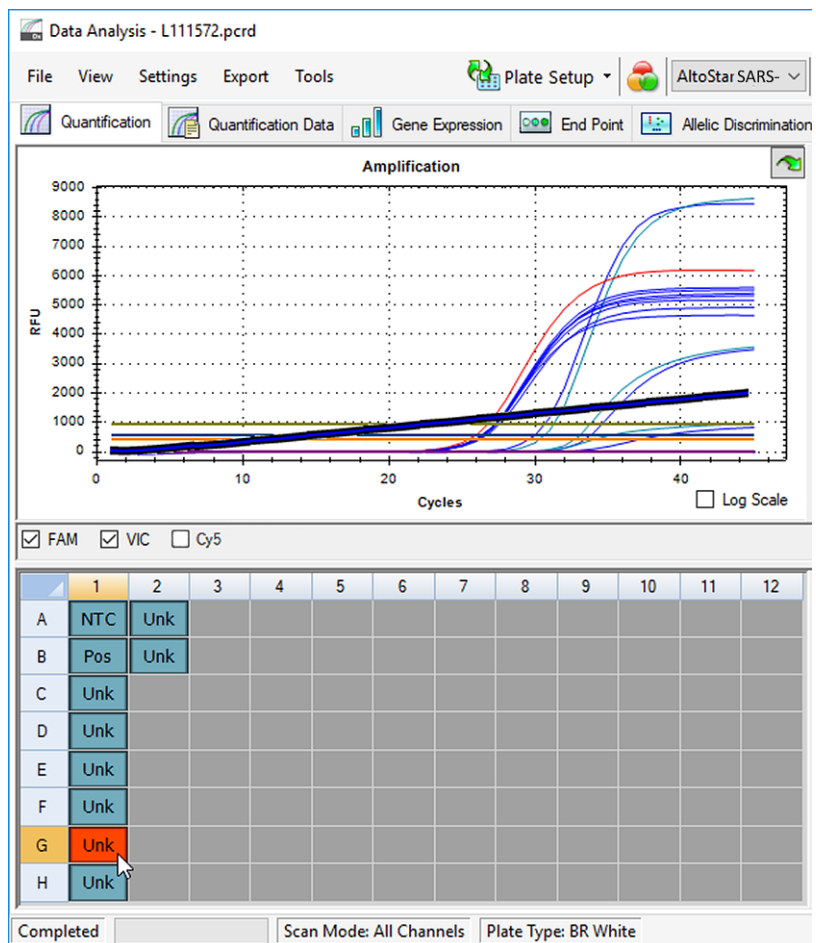

Figure 36: Data Analysis window: Irregular PCR signal
2. Identify wells with irregular PCR signals (linear signal increase, signal spikes, etc.) in any of the FAM™ (E gene), the Cy5 (S gene) and the VIC™ (Internal Control) detection channels (see Figure 36).